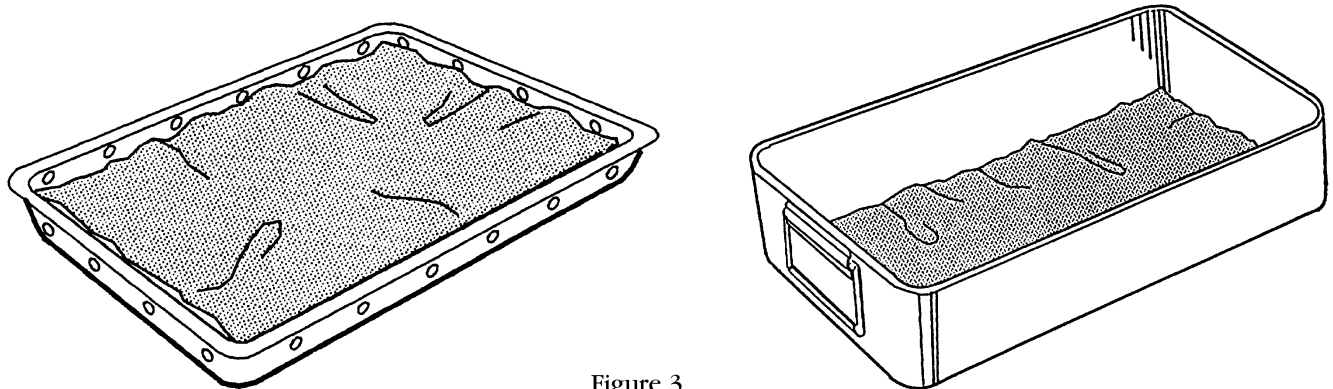

Figure 3.
1. Line the tray with an absorbent surgical towel or its disposable equivalent before arranging instruments. Moisture formed during sterilization more readily dries from absorbent materials than from droplets or pools on solid metal surfaces (Figure 3).